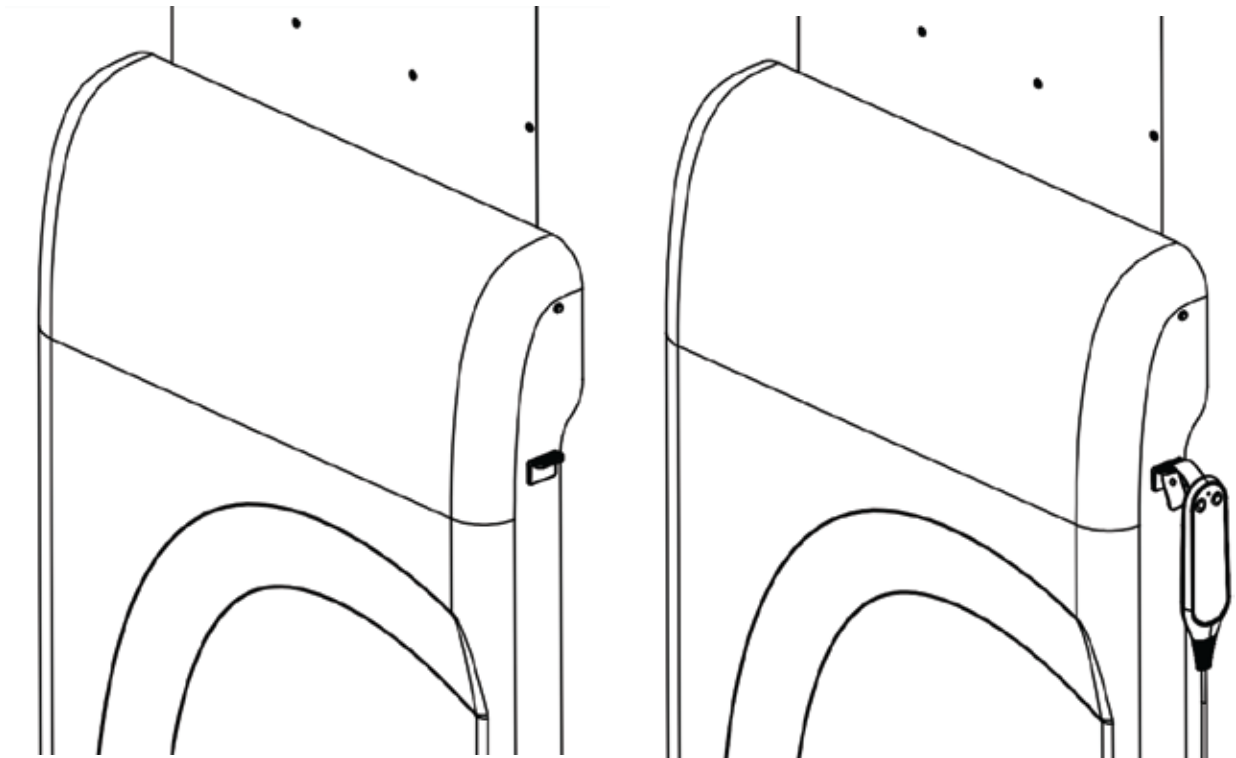

Fig 12.5d
- This should be fit high up on the right side of the cover, as shown in Fig 12.5d.